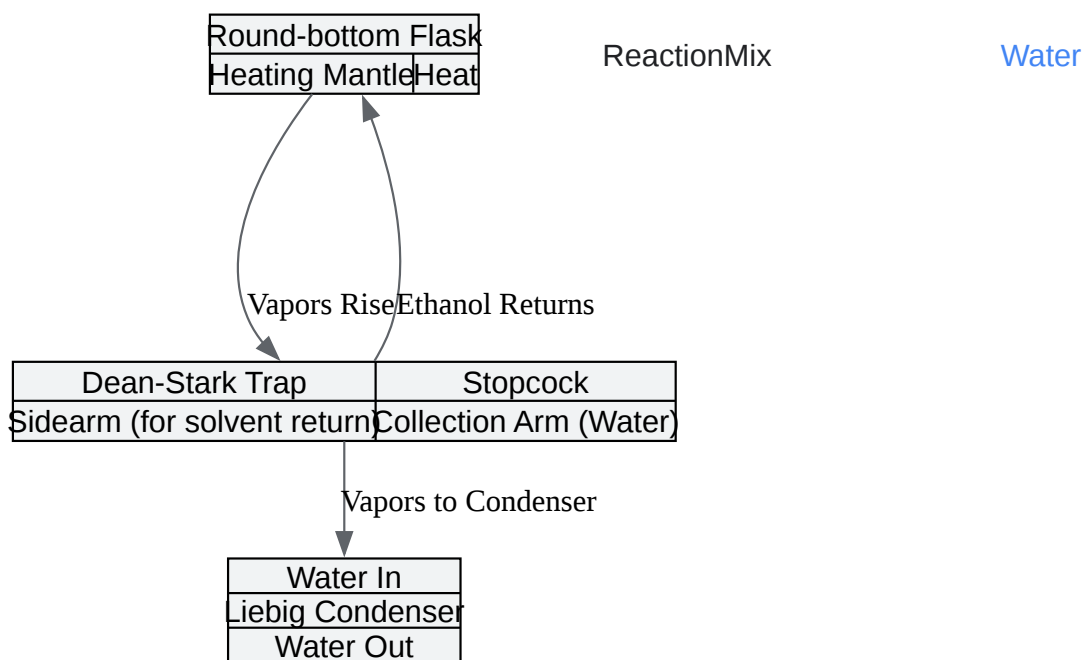

Figure 2: Recommended Reflux Setup with Dean-Stark Trap
Caption: Figure 2: Recommended Reflux Setup with Dean-Stark Trap.
- **Setup:** Assemble the reflux apparatus with a Dean-Stark trap as shown in Figure 2. Fill the trap with ethanol before starting.